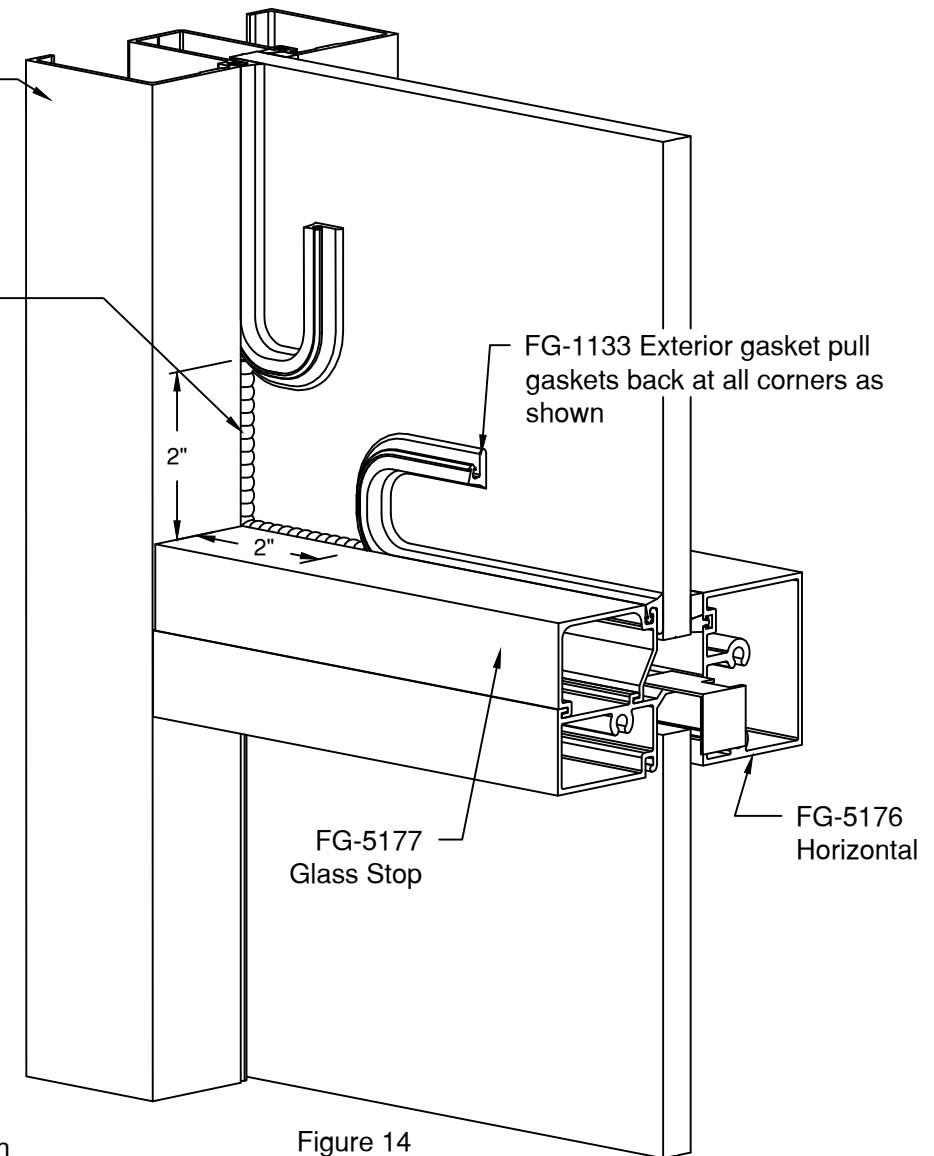
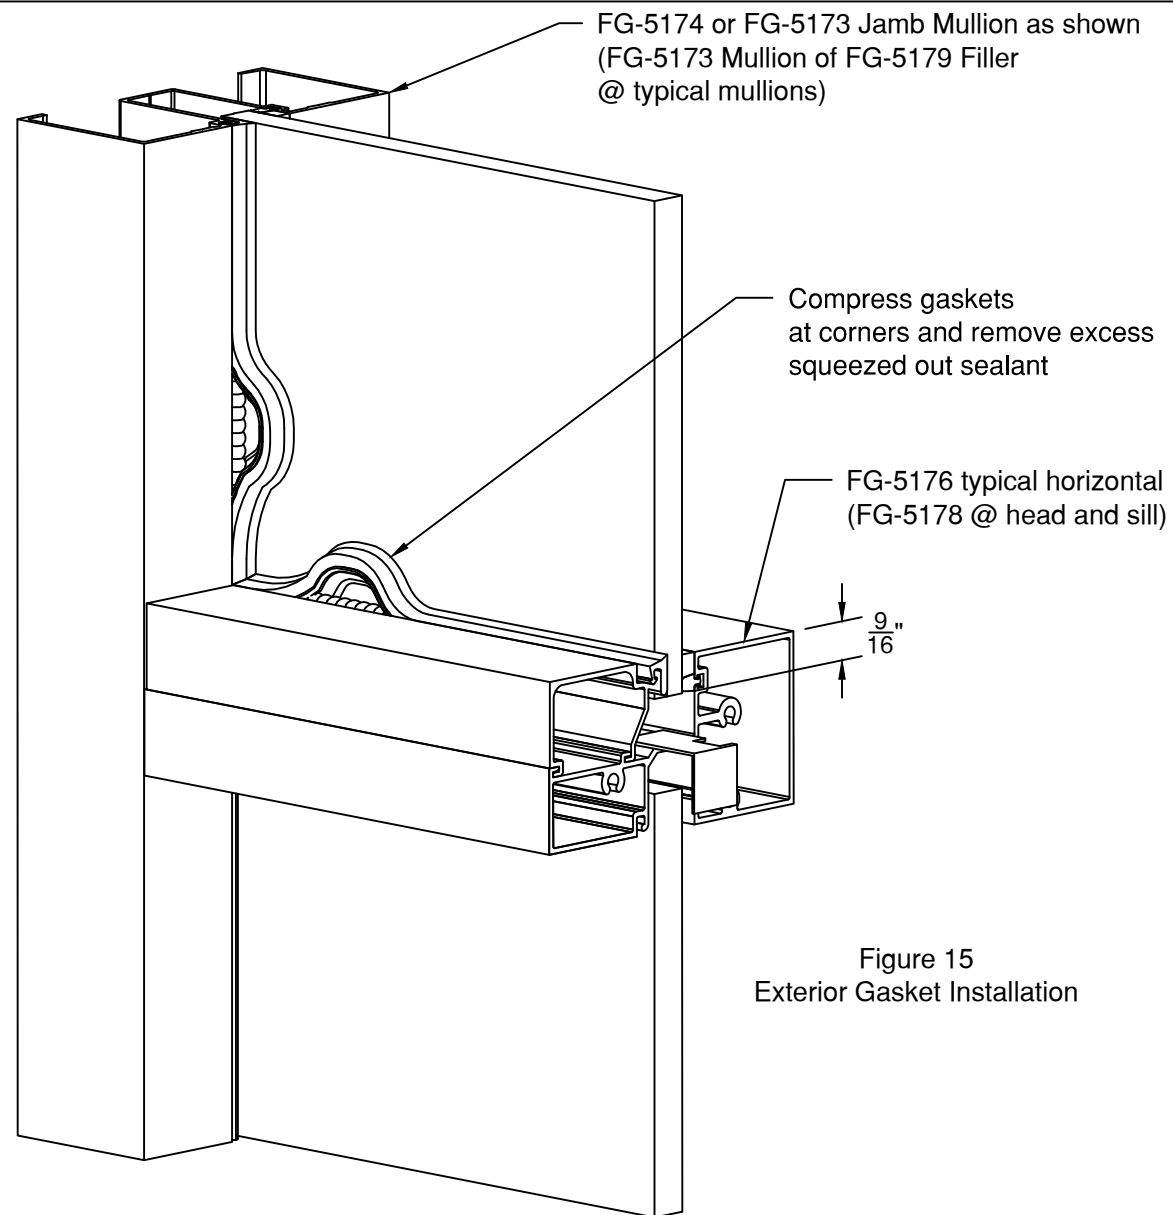

Figure 14
Figure 15
- 4W.2.4 Cut gaskets a minimum of 1/8" per foot longer than daylight opening to provide for adequate compression. as shown at **Figure 14 detail A**.
- 4W.2.5 After gaskets are pressed in place. Pull gasket from pocket as shown in Figure 13 above. Clean glass and gaskets a minimum of 2" from each end with isopropyl alcohol. Apply Dow Corning® 795/995 sealant see Figure 14. Push gaskets into reglet, **See figure 15 on sheet 10**.